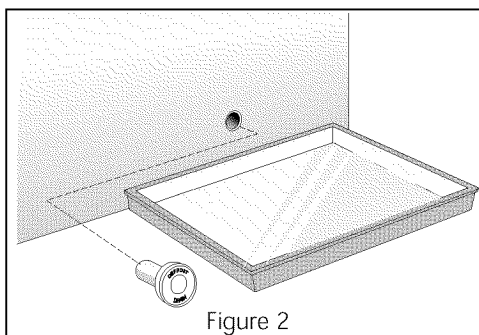

Figure 2
3. At top of cabinet, lift up plastic hinge cover and fold back. (Figure 2)
- **On chest models** with a defrost drain, place a shallow pan beneath the drain outlet (Figure 2). A one half inch garden hose adapter can be used to drain the freezer directly into a floor drain (Figure 3). If your model is not equipped with an adapter, one can be purchased at most hardware stores. Pull out the drain plug inside the freezer, and pull off the outside defrost drain plug (Figure 4 on following page). Defrost water will drain out. Check pan occasionally so water does not overflow. Replace the drain plugs when defrosting is completed.